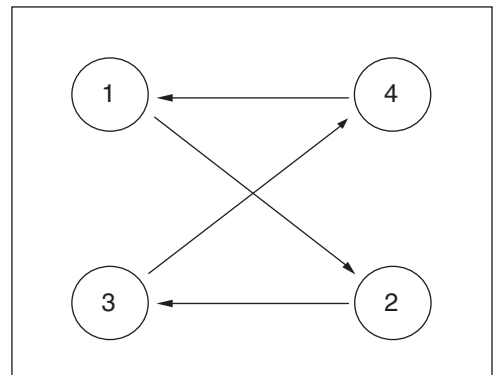

Fig. 12
5. Replace the shift housing and/or inspection plate and retorque (4) four capscrews to 24 - 28 lbs-ft [33 - 39 Nm].
**NOTE:** Use a crossing pattern when torquing the bolts (Fig. 12).